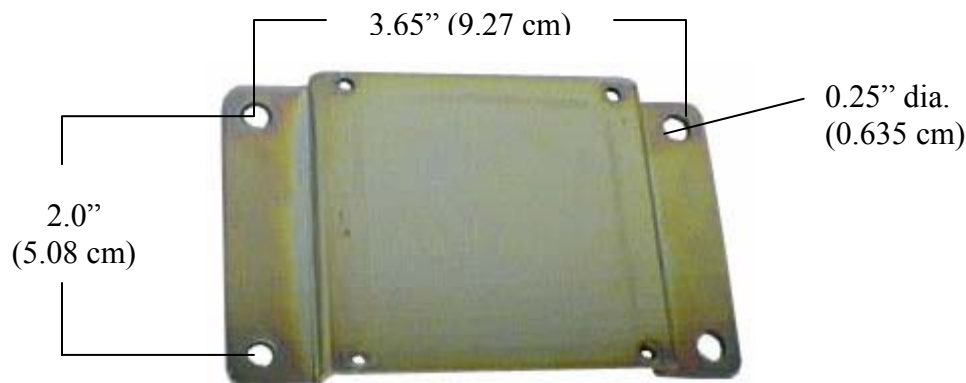

Figure 14. Mounting Plate Dimensions
- 1) Mounting transducer and interface module. The same mounting plate is used for LPT, LIM-3 and LIM-4, as shown in Figure 14.
- 1) Fasten mounting plate (with attached LPT) to a wall or other permanent fixture using standard construction practices. Refer to mounting plate dimensions in Figure 14.